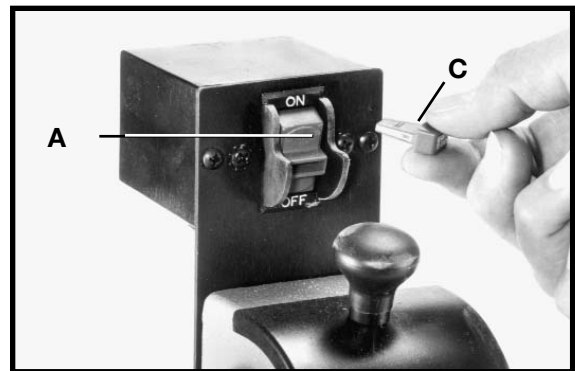

Fig. 18
To lock, grasp the toggle (C) Fig. 18, and pull it out of the switch (A). When the safety toggle (C) Fig. 18 is removed, the switch will not operate. However, should the safety toggle be removed while the wood lathe is operating, the switch can be turned “OFF” once, but cannot be restarted without inserting the safety toggle (C) back into the switch.